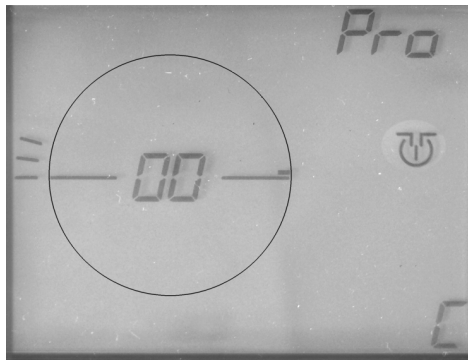

Fig. 14 Go to the 4th exit
- Turn the **red knob** until the bridge hut has reached the position of the fourth track exit (as in our example, at "3 o' clock") (Fig. 14).